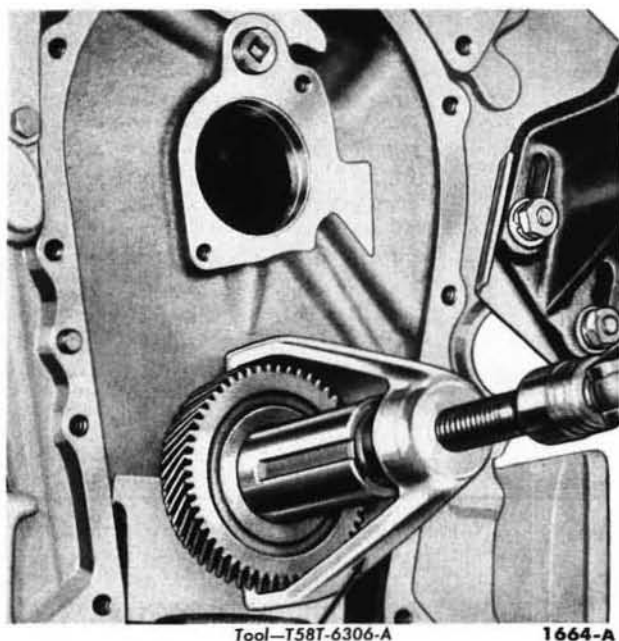

FIG. 32—Crankshaft Gear Removal
4. To remove the crankshaft gear, install the tool shown in Fig. 32 and pull the gear off the shaft.